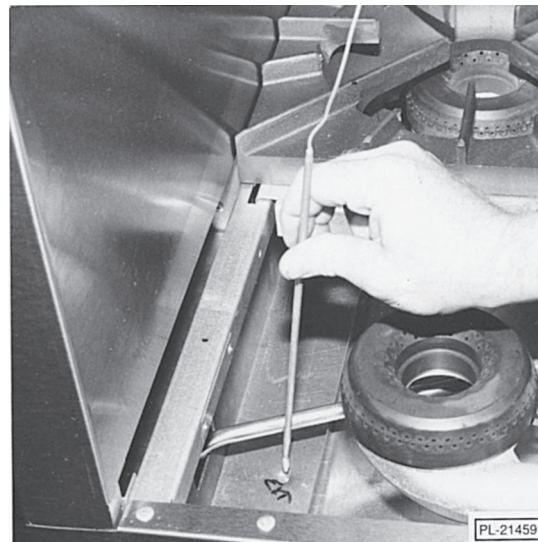

Fig. 29
3. Remove the top grates or griddle sections required to access the thermostat and capillary wiring (Fig. 29).